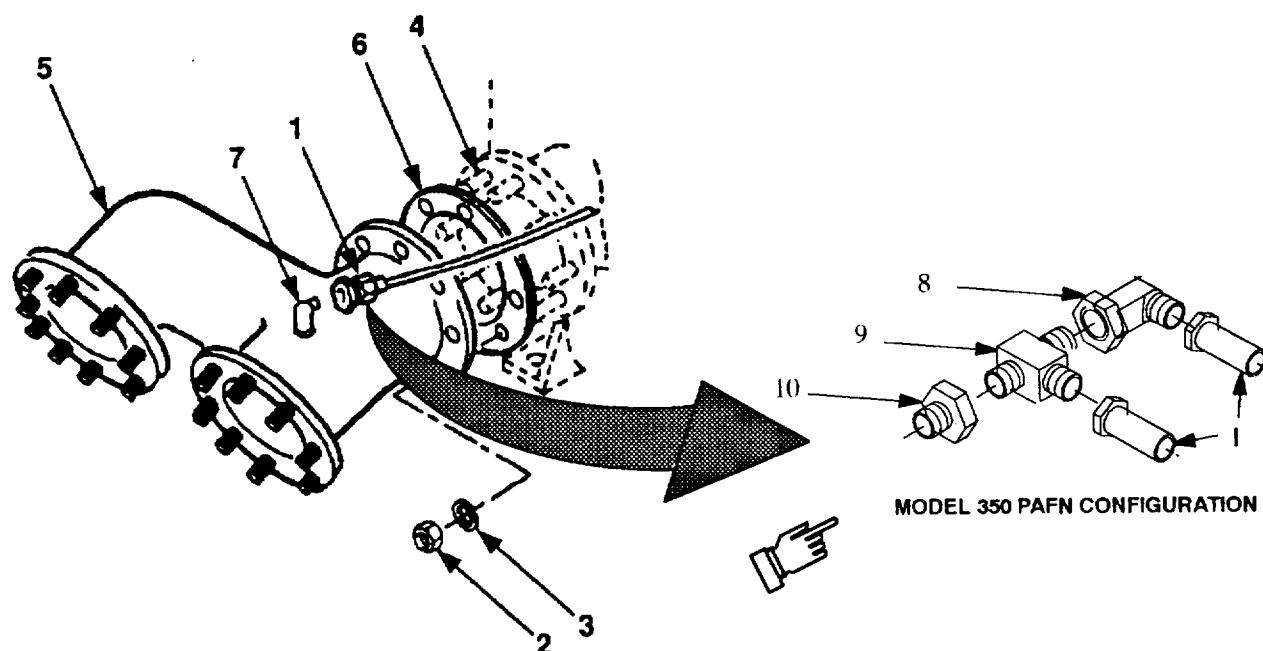

Figure 4-62. Suction Manifold Maintenance.
- a. Disconnect hoses(Figure 4-62, 1).
- b. Remove eight nuts(2) and lockwashers(3) from studs(4) of centrifugal pump.
- c. Remove suction manifold(5) from centrifugal pump.
- e. Remove fitting (s)(7) from suction manifold. (All models except Model 350 PAFN),
- f. Remove elbow(8), tee(9) and bushing(10) from suction manifold. (Model 350 PAFN only).
- a. Wrap bushing(10), tee(9) and elbow(8) with antiseizing tape then install on suction manifold.(Model 350 PAFN only).
- b. Wrap fitting(s)(7) with antiseizing tape then install on suction manifold. (All models except Model 350 PAFN).
- c. .Install gasket(6) over studs(4) of centrifugal pump.
- d. Install eight lockwashers(3) and nuts(2).